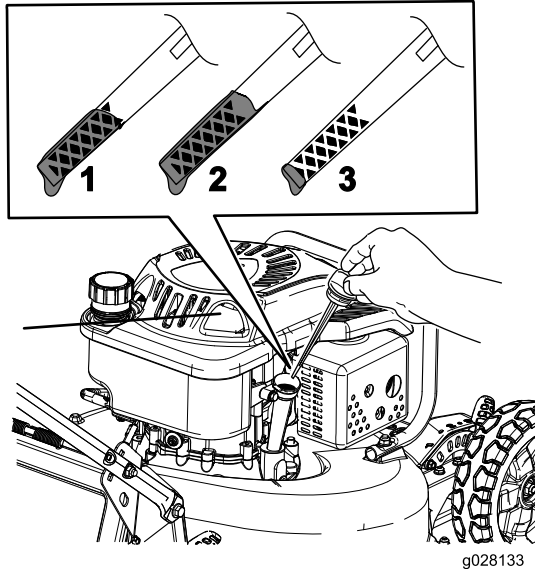

Figure 12
2. Remove the dipstick (Figure 12).
5. Remove the dipstick and read the oil level; refer to Figure 12.